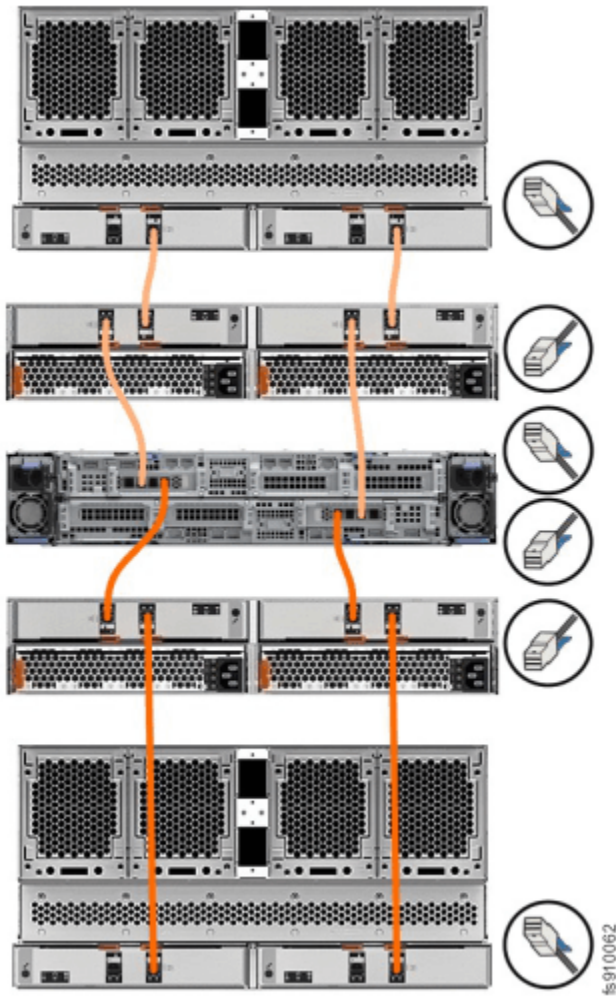

Figure 60. Connecting the SAS cables to control enclosure
- The FlashSystem models support 4-port SAS interface adapters. However, only ports 1 and 3 are used for SAS connections, as Figure 60 on page 100 shows.
- See “Enclosure location guidelines” on page 56 for the number and type of expansion enclosures that can be chained to SAS port 1 and SAS port 3 of a node canister. The expansion enclosures in this chain must be installed below the control enclosure (as shown in Figure 60 on page 100).
- Figure 60 on page 100 shows an example configuration of a control enclosure that is connected to two SAS chains.
- Figure 60 on page 100 is a generic cabling diagram intended to illustrate how to cable the different types of expansion enclosure. Some systems do not allow for a mixture of expansion enclosure types in the same chain. See Chapter 4, “Expansion enclosures,” on page 39 for details on the supported expansion enclosures for your specific system model.
Using the supplied SAS cables, connect the control enclosure to the expansion enclosure at rack position 1, as shown in Figure 60 on page 100.
To add further expansion enclosures, continue to connect the expansion canisters as shown in Figure 60 on page 100.